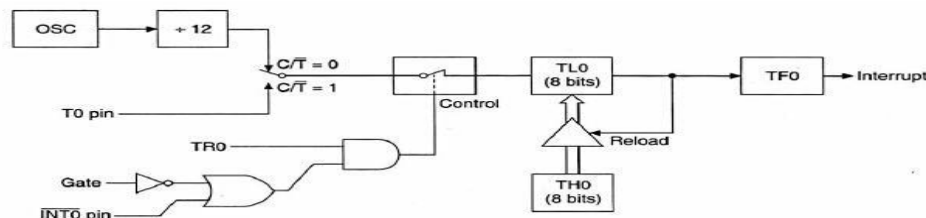

Figure 3: Timer 0, mode 2 _ auto reload.
- In this mode, the timer register is 8 bits wide. TL0 for Timer 0 (or TL1 for Timer 1) is used for this purpose (Figure 3).